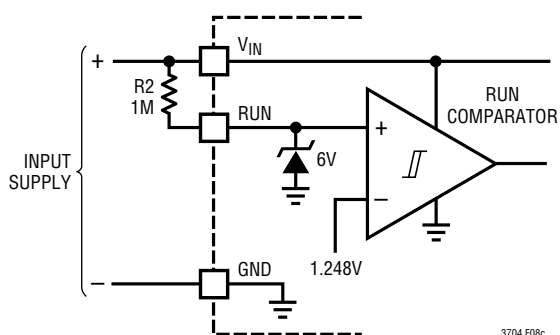

Figure 8c. External Pull-Up Resistor On RUN Pin for “Always On” Operation
**Absolute Maximum Rating for this pin!** The RUN pin can be connected to the input voltage through an external 1M resistor, as shown in Figure 8c, for “always on” operation.